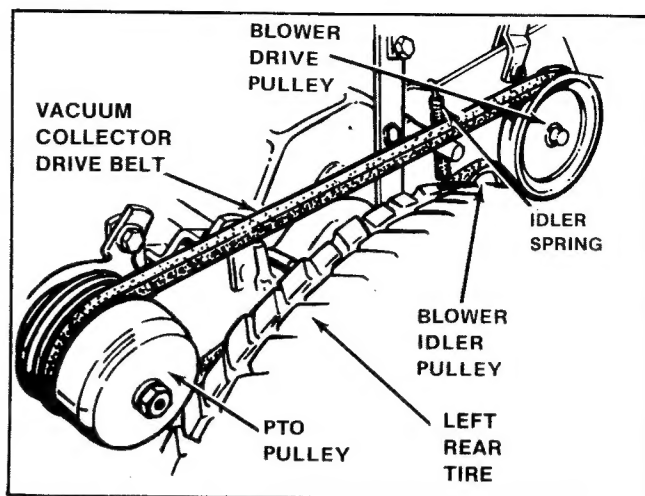

Figure 2. Drive Belt
4. Install the vacuum collector drive belt in the outer groove on the tractor PTO pulley. Place the other end of the belt on the blower drive pulley, with the idler pulley positioned underneath the lower portion of the belt, as shown in figure 2. Be sure the idler spring is hooked over the left upper hitch arm.